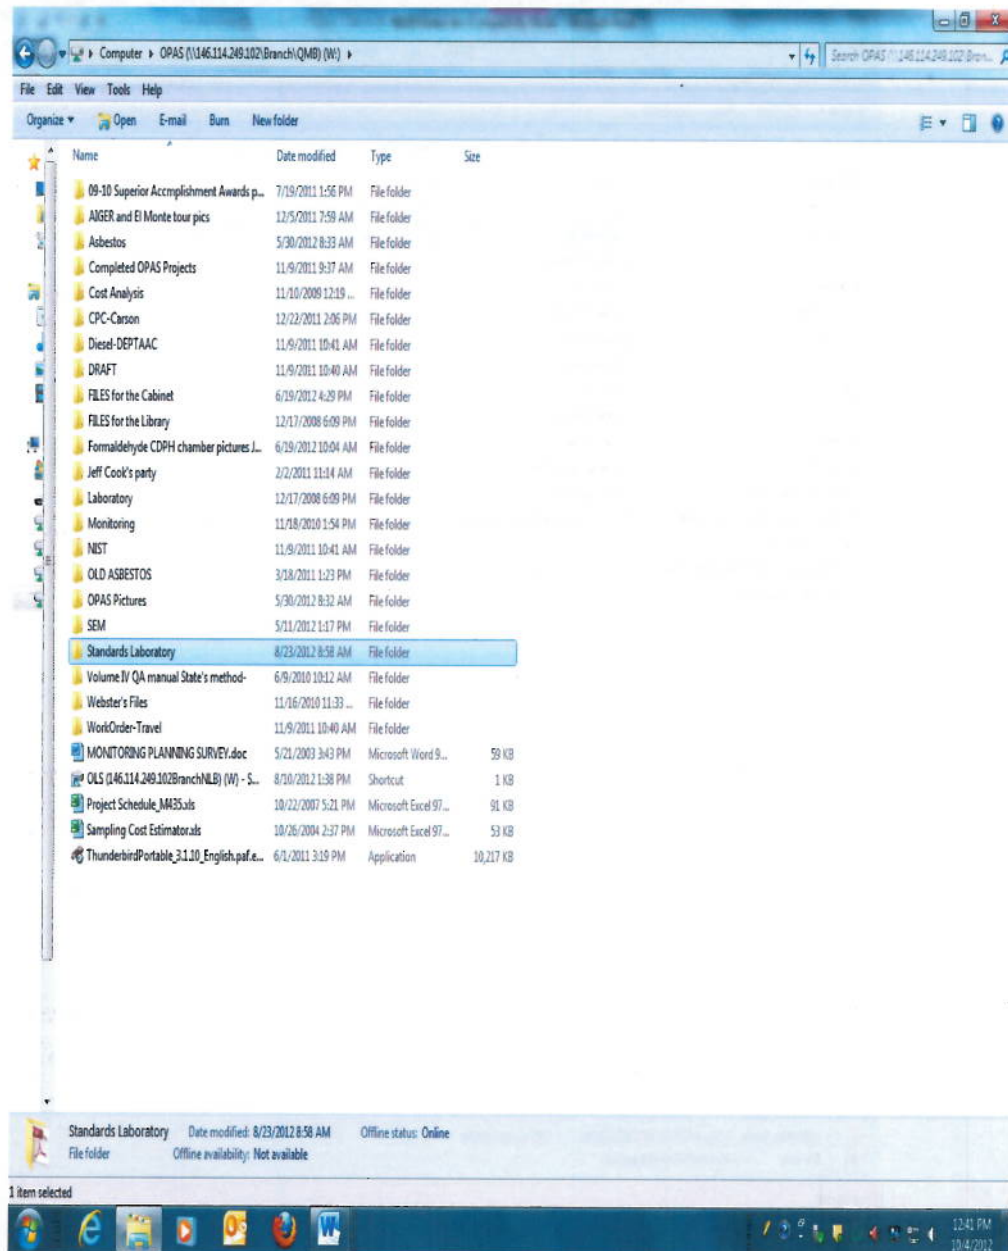

Figure 22
13.1.1 Double-click on the “Standards Laboratory” folder. See Figure 22.